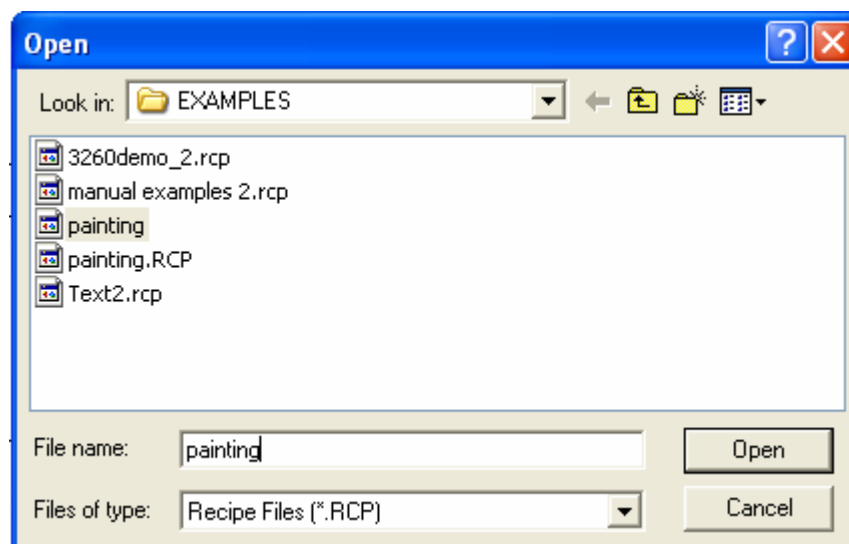

Figure 193. Open Download Recipe
8. Select [Download Recipes] on HMI, then select [File]/[Download Recipes] to download the recipe file. See Figure 193.